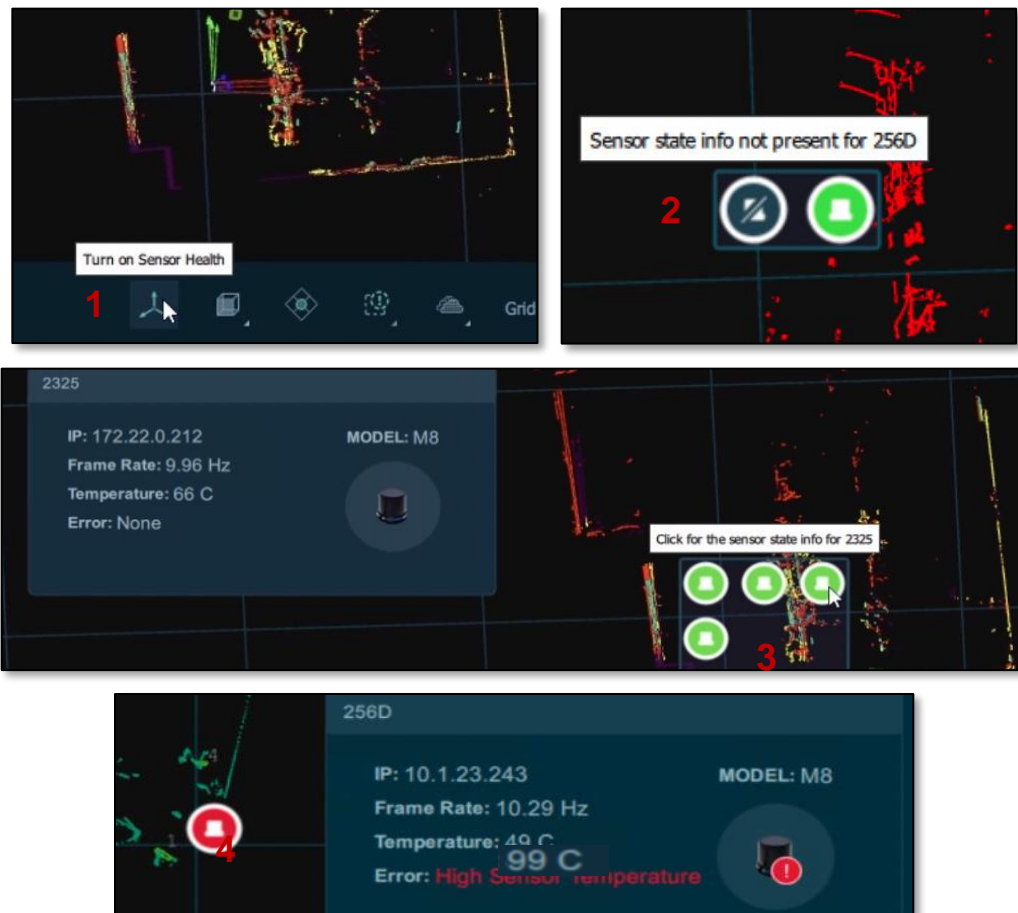

Figure 53. Sensor Health: Axes (1), Disconnected (2), Healthy (3), Malfunctioning (4)
When the QORTEX DTC client is displaying **LIVE** data, use **Sensor Health** to check the status of each sensor. See *Figure 53. Sensor Health: Axes (1), Disconnected (2), Healthy (3), Malfunctioning (4)*.